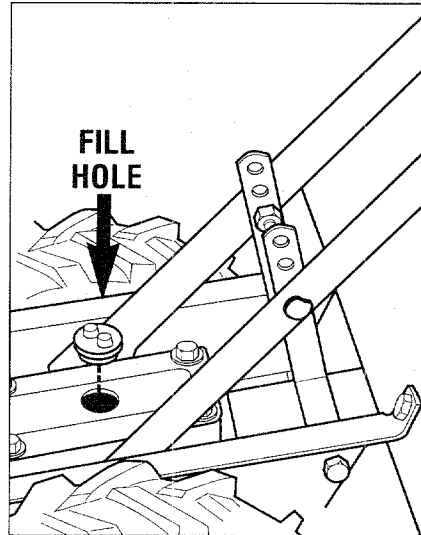

Figure 5-6: Gear oil fill hole.
3. Slowly pour clean gear oil into the transmission. Frequently check the level so as not to overfill the transmission. See Figure 5-6.